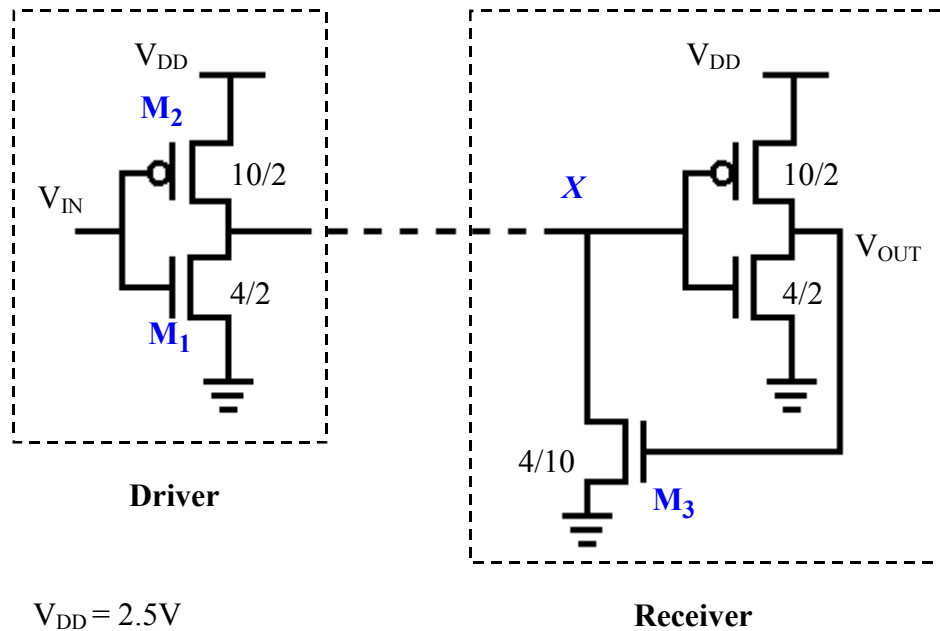

FIG. 2 Driver and receiver. Numbers on transistors indicate (W/L) ratios.
a) A driver-receiver pair in CMOS technology is shown in Figure 2.